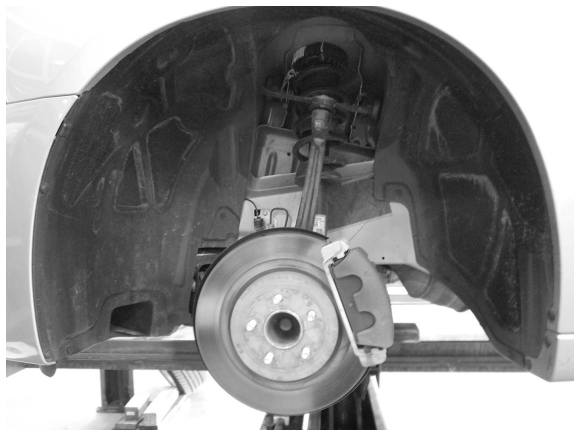

Fig. 2
2. Remove the front wheels (Fig. 2).